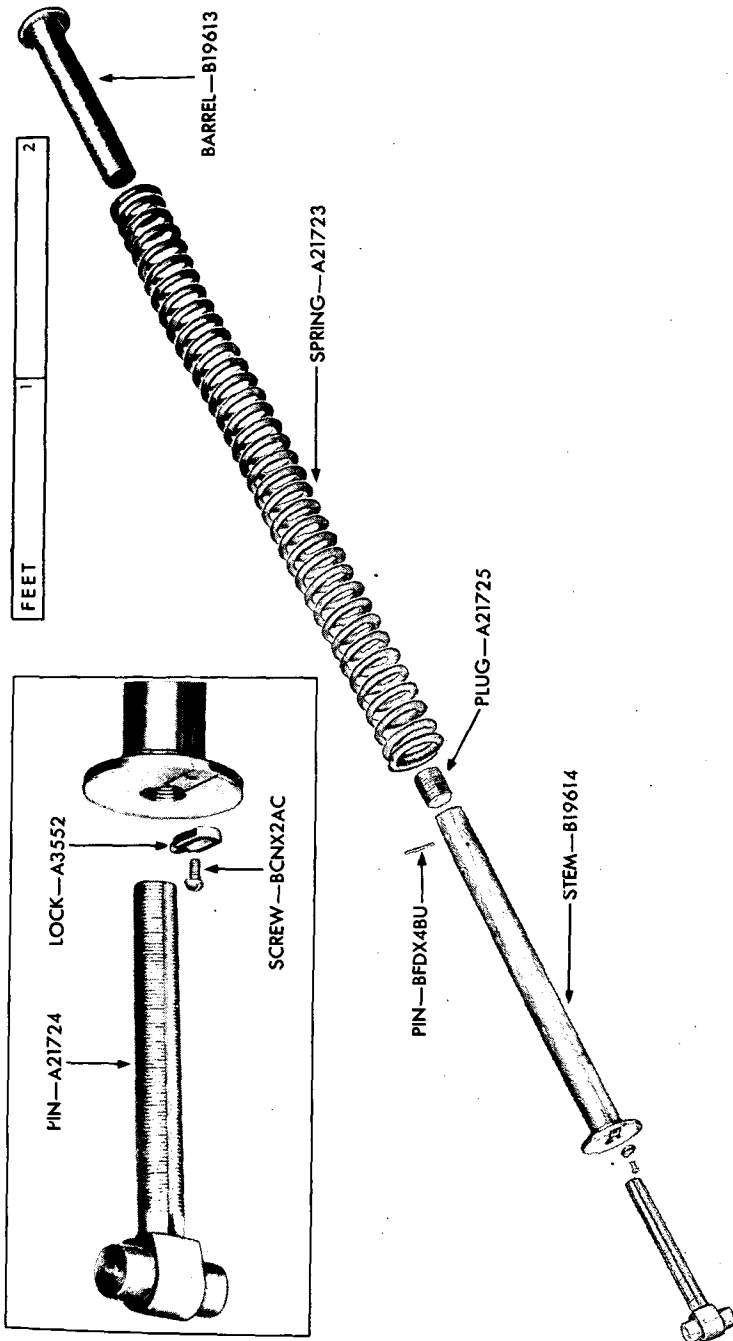

Figure 67—M1 and M8 Equilibrators—Exploded View
(2) The equilibrator is composed of the barrel, stem, helical spring, stem plug, pin lock, and lock screw (fig. 67).
(3) The equilibrator spring pressure is adjustable within limits, to secure the least and most uniform resistance to elevation and depression.
(d) Then remove equilibrator locking tool, back off on jig screw, remove front cover from jig, and remove equilibrator parts (fig. 67).